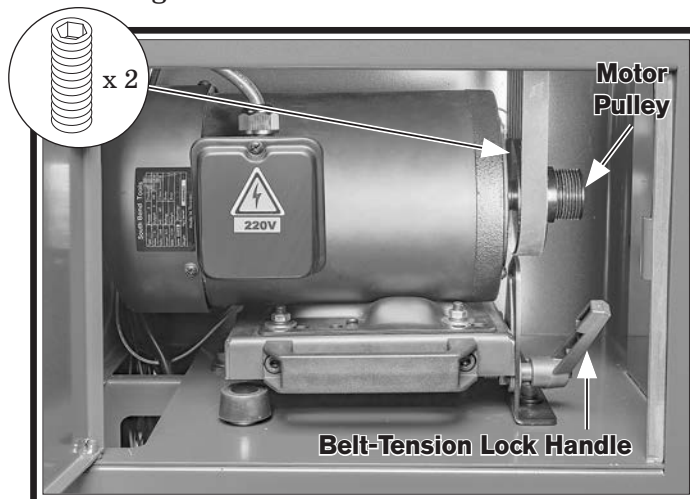

Figure 57. Location of motor pulley alignment components.
4. Loosen (2) set screws on motor pulley shown in Figure 57.